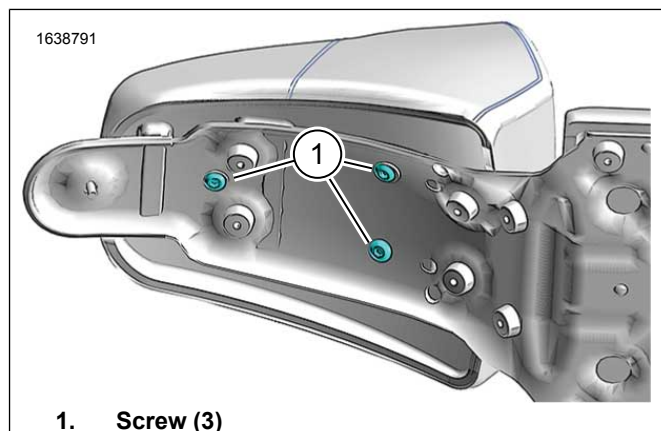

Figure 2. Pillion Screws
2. See Figure 2. Tighten pillion screws (1).